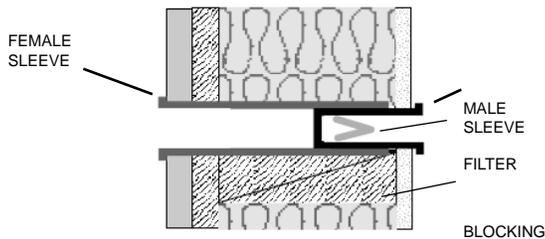

FIGURE 3
2.1.5 Insert the male sleeve, with the filter installed, into the female sleeve. See figure 3.